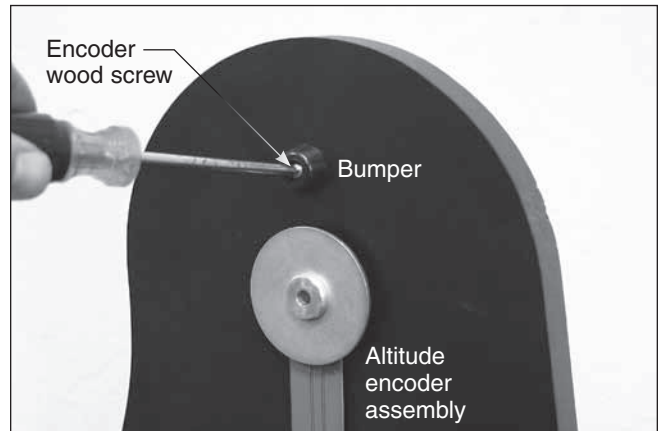

Figure 12. Install the bumper into the pilot hole above the altitude encoder assembly using one of the encoder wood screws.
18. There is a pilot hole above the altitude encoder assembly; this is where the plastic bumper (found in the IntelliScope kit) which protects the altitude encoder assembly will be installed. Take the remaining encoder wood screw from the IntelliScope kit, push it through the bumper, and use a Phillips screwdriver to thread it into the pilot hole until tight (Figure 12).